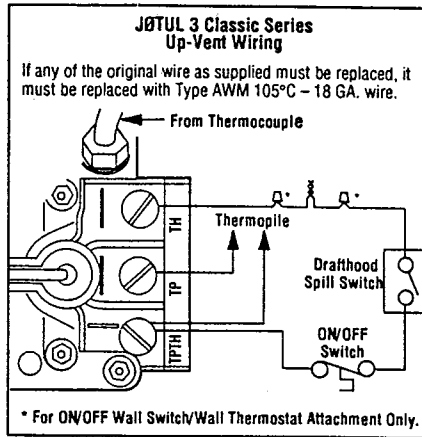

Figure 27
**Step 4. Installing the Optional Remote Wall Switch or Wall Thermostat** The standard Jøtul DV 3 system comes from the factory wired as shown in Figure 27. Select a convenient location for the remote wall switch or wall thermostat and connect the wiring to the appliance.
An optional wall mounted thermostat kit, part number 07-750003, can be installed along with the JØTUL 3 Classic Direct Vent. The wall mounted thermostat kit should be installed along with the appliance. Refer to Figure 27 and Step 4 for detailed installation instructions.